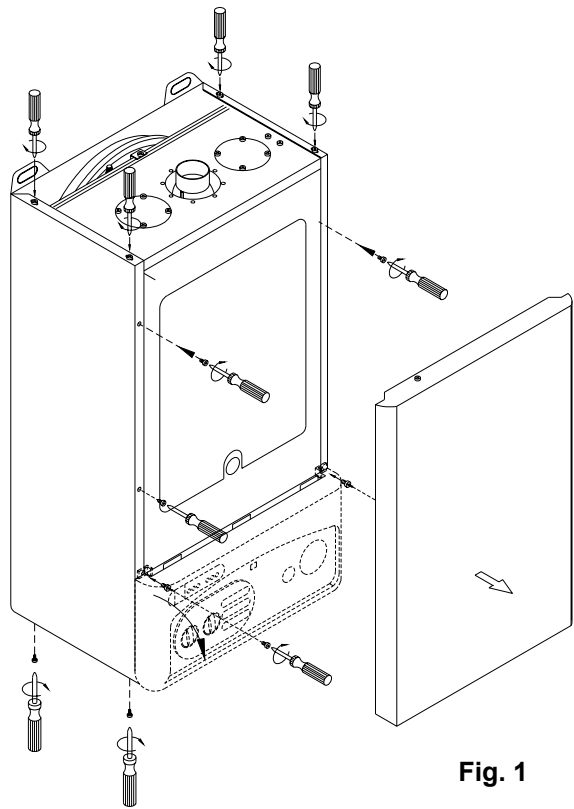

Fig. 1
- Fit the interface (fig. 2) on the circuit board (fig. 1) into the holes A and B provided (see fig. 1).
- Connect plug M1 on the interface circuit board (fig. 2) to plug M11 on the modulation circuit board (fig. 1).
When dismantling the boiler casing removing as shown in fig.1.